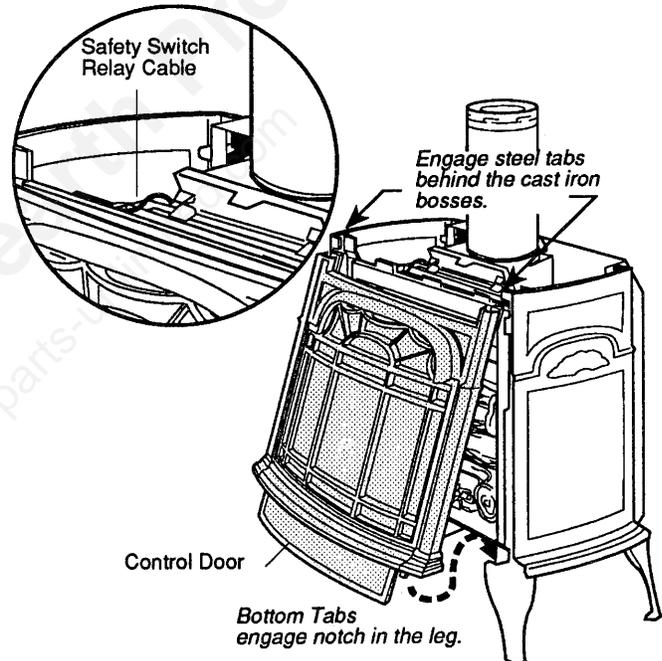

Figure 32. Install the Front Plate.
Step 1. Grasp the Front Plate by the window bars and lift it into position engaging the two steel tabs behind the adjacent bosses in the Side Plates. Fig. 32. Then seat the Front against the sides so that the tabs at the bottom lip engage with the notches in the stove legs.
NOTE: Be sure that the steel safety switch relay cable is positioned over the Heat Exchanger door on top of the firebox. See Figs. 32 and 40a.